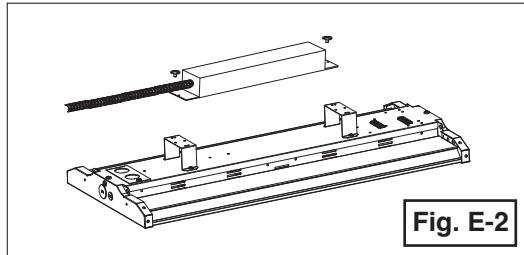

Fig. E-2
2. Mount the emergency LED driver unit on the mounting bracket using additional screws. (**Figure E-2**)